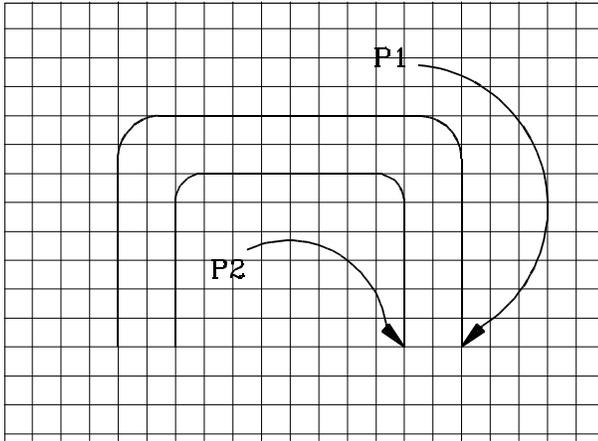

Figure 5:
10. Repeat Step 8 for the corners of the smaller rectangle, setting the -Radius ? modifier to 2. Your results should be the same as Figure 5.